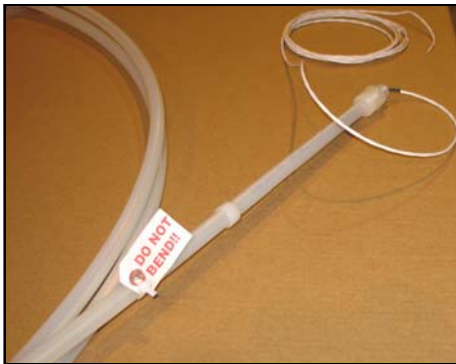

Figure 7. Do not bend top 2 feet of probe
- DO NOT BEND THE TOP 2 FEET OF THE MAG-XL Flex Probe. The top of the MAG-XL Flex Probe has electronic components inside of the tube and must remain straight (see Figure 7).